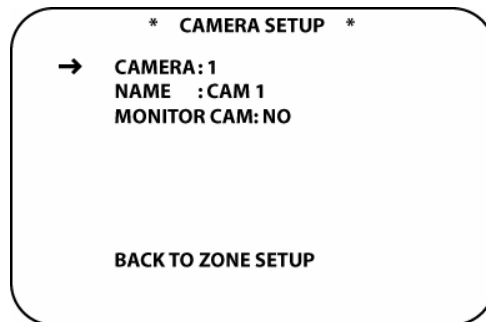

Figure 107 Camera Setup Screen
1. From ZONE SETUP PAGE 1, with the cursor next to CAMERA SETUP, press the **Set Button [oval 18]**. The CAMERA SETUP screen will appear. (Figure 107)